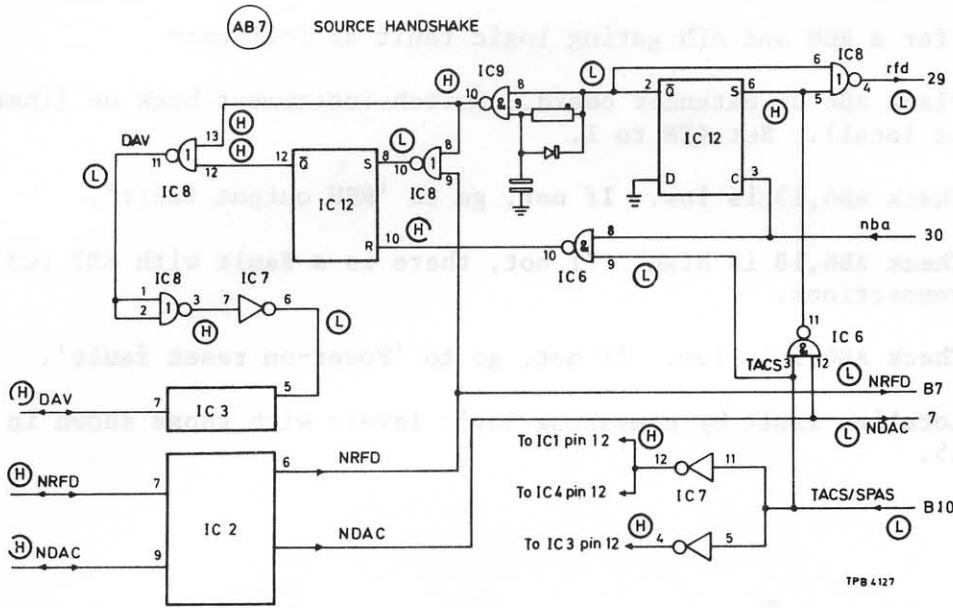

Fig. 16 'Source handshake fault' logic levels
- (1) Place AB7 on extender board and switch on. Switch analyser to TALK and check REN and ATN are at 1. Set DIO lines to MLA and press EXECUTE.
- (2) Set DIO lines to 00111111 (UNL) and press EXECUTE.
- (3) Check AB7,B10 is low. If not, go to 'Talker addressed latch fault'.
- (4) Set ATN to 0 and check logic levels agree with those shown in Fig. 16.
- (5) Set ATN to 1. Set DIO lines to MLA and press EXECUTE.
- (6) Set ATN to 0 and press EXECUTE to send incorrect data. Check SRQ lamp comes on. If not, go to 'Service request fault'.
- (7) Set ATN to 1. Set DIO lines to MTA and press EXECUTE.